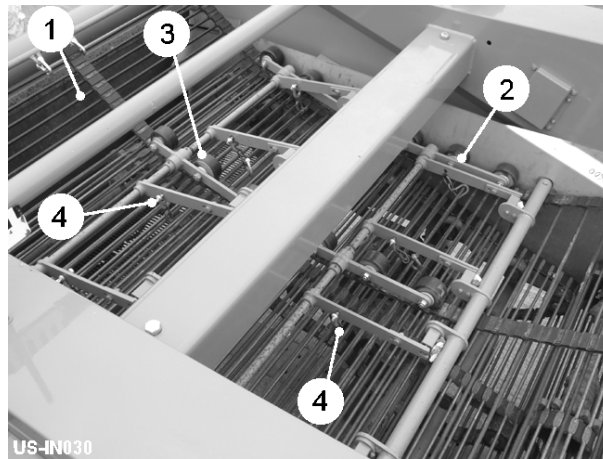

Fig 16
An optional draper web (item 1, fig 16) can be fitted above the 4th web. The draper web is raised / lowered using the control box switch marked 'Draper Web'. Lowering the draper web will increase the pressure on the 4th web thus increasing the separation. Further pressure is exerted by the front and rear compression rollers (item 2 & 3, fig 16). Too much pressure or too little height may cause soil build-up in front of the 4th web.
The front and rear sets of compression rollers (item 2 & 3, fig 16) hold down the draper web / Vari-Flow web. A manual turnbuckle or linear actuator enables the operator to set the height of the front and rear sets of compression rollers. Lowering the compression rollers will increase the pressure exerted on the 4th web. A pivot link with a series of holes connects the front and rear sets of compression rollers. The relative height of the front and rear rollers can be altered by lengthening or shortening the link.